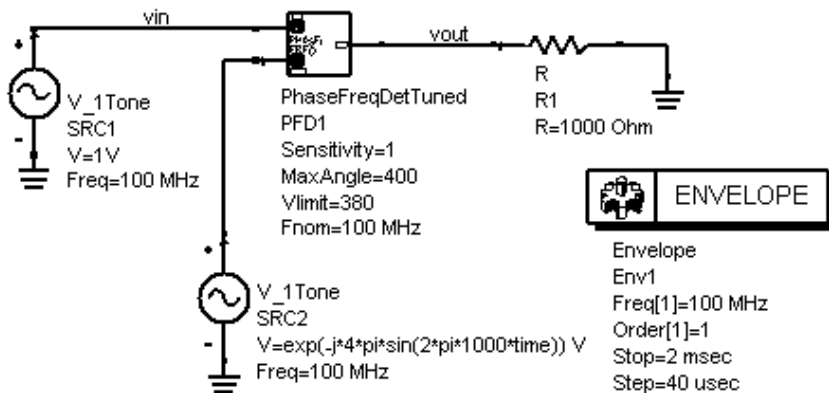

Figure 5-7. Phase-Frequency Detector Example
3. Figure 5-7 and Figure 5-8 show a simple schematic and example of this phase-frequency detector's output. The reference input is a fixed frequency. The VCO input has sinusoidal frequency modulation.